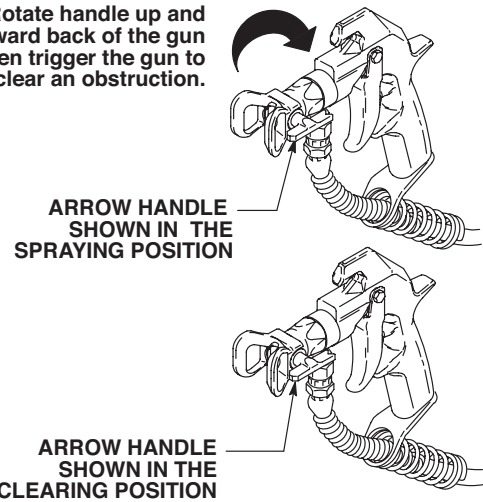

FIG. 8
3. Turn the arrow handle in the direction of the tip guard, which is the spraying position. (FIG. 8)
- Turn the arrow handle up and back toward the gun body. (FIG. 8)